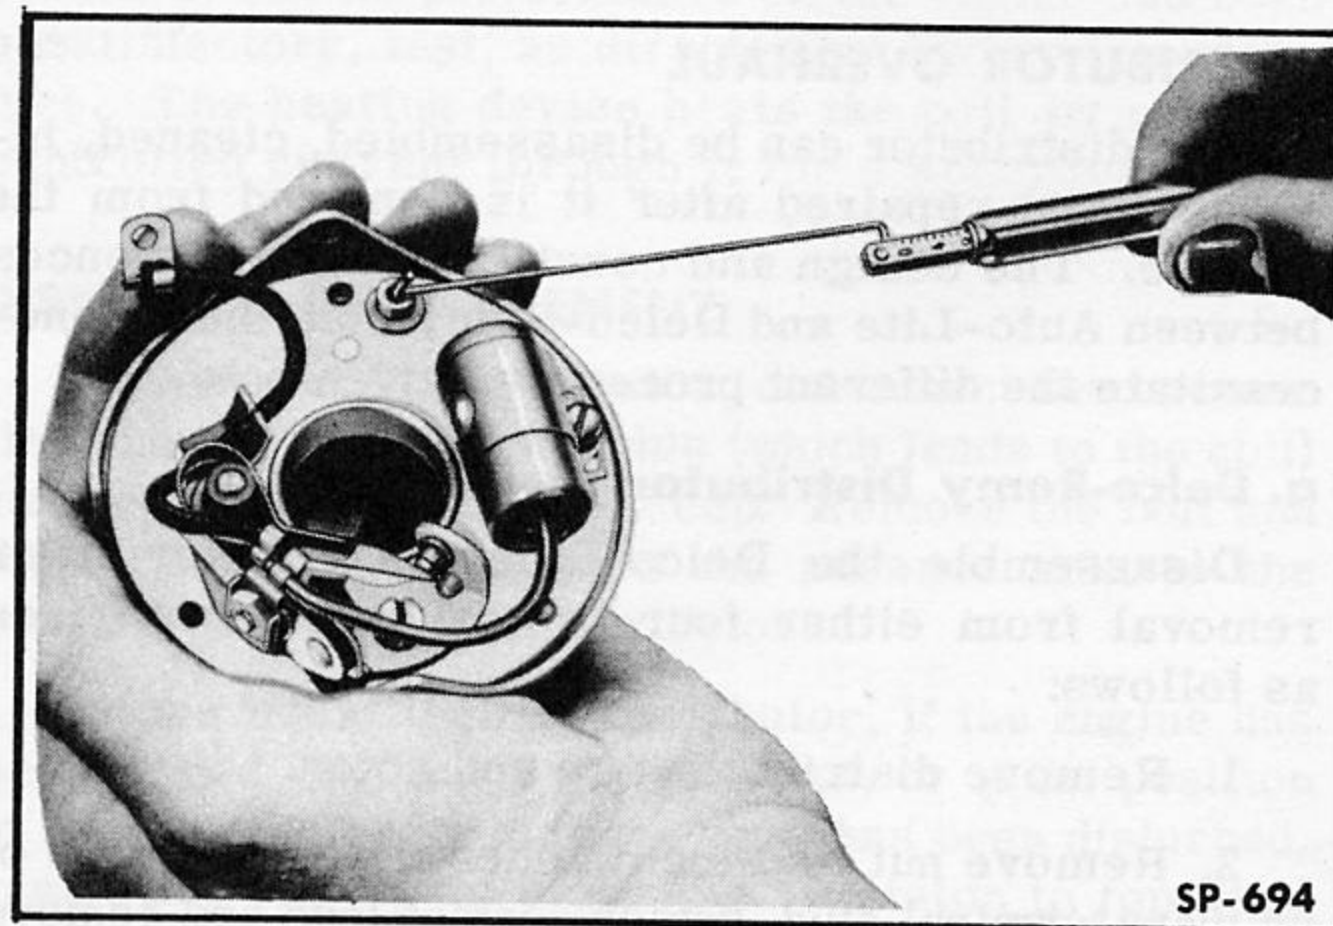

Fig. 301—Checking Delco-Remy Distributor Breaker Plate Drag
7. After the breaker plate and support have been assembled check the movable breaker plate drag as illustrated in Fig. 301. The drag should be 8-16